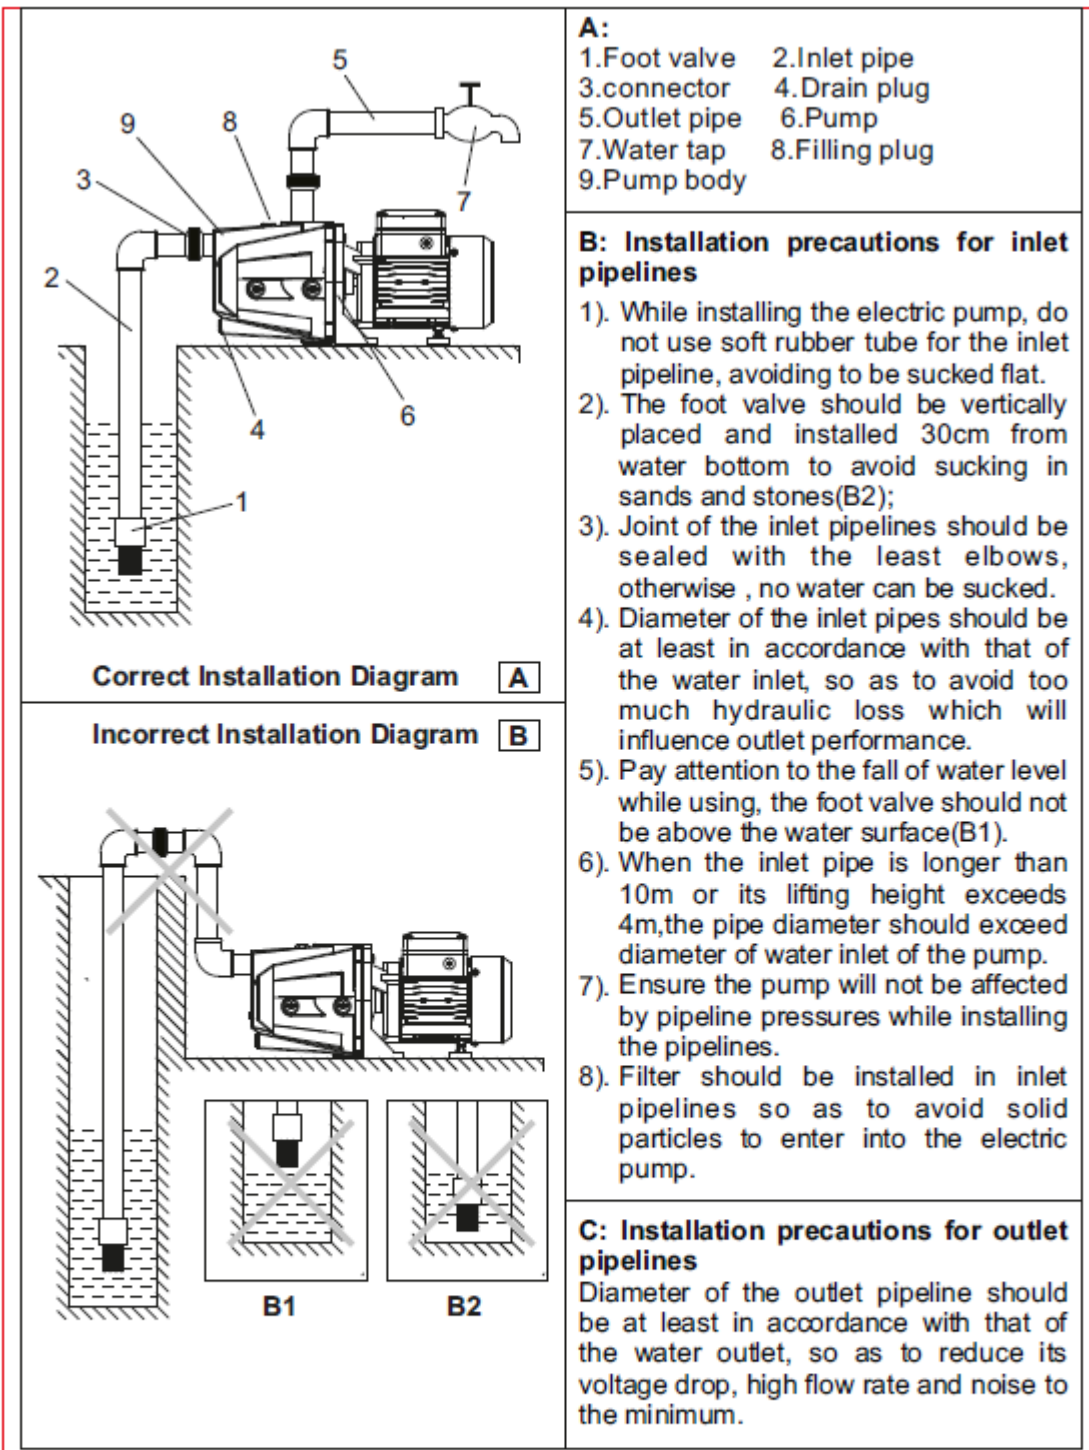
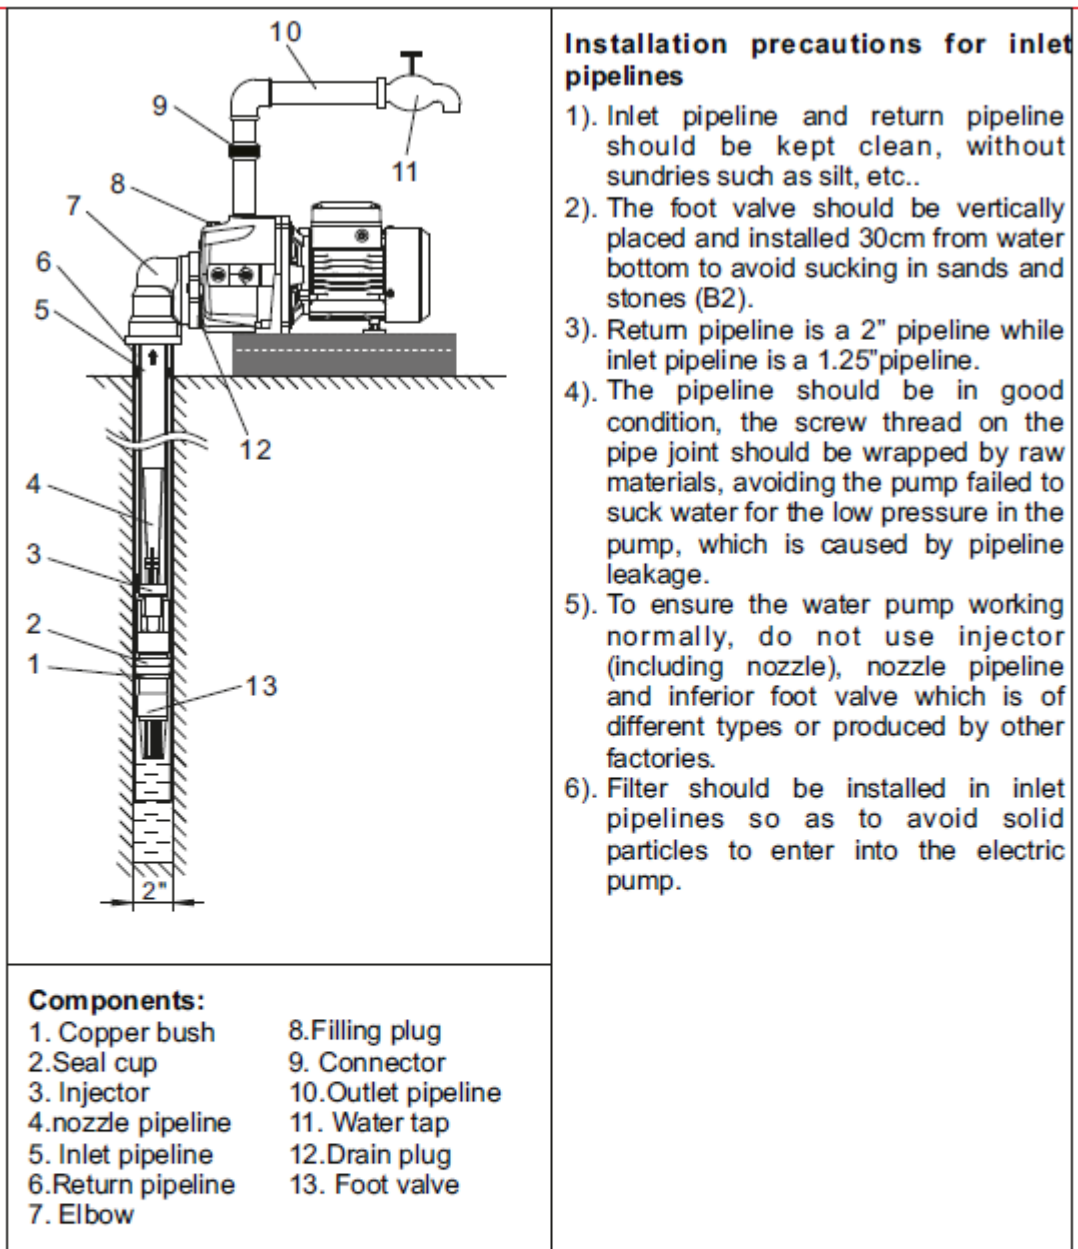
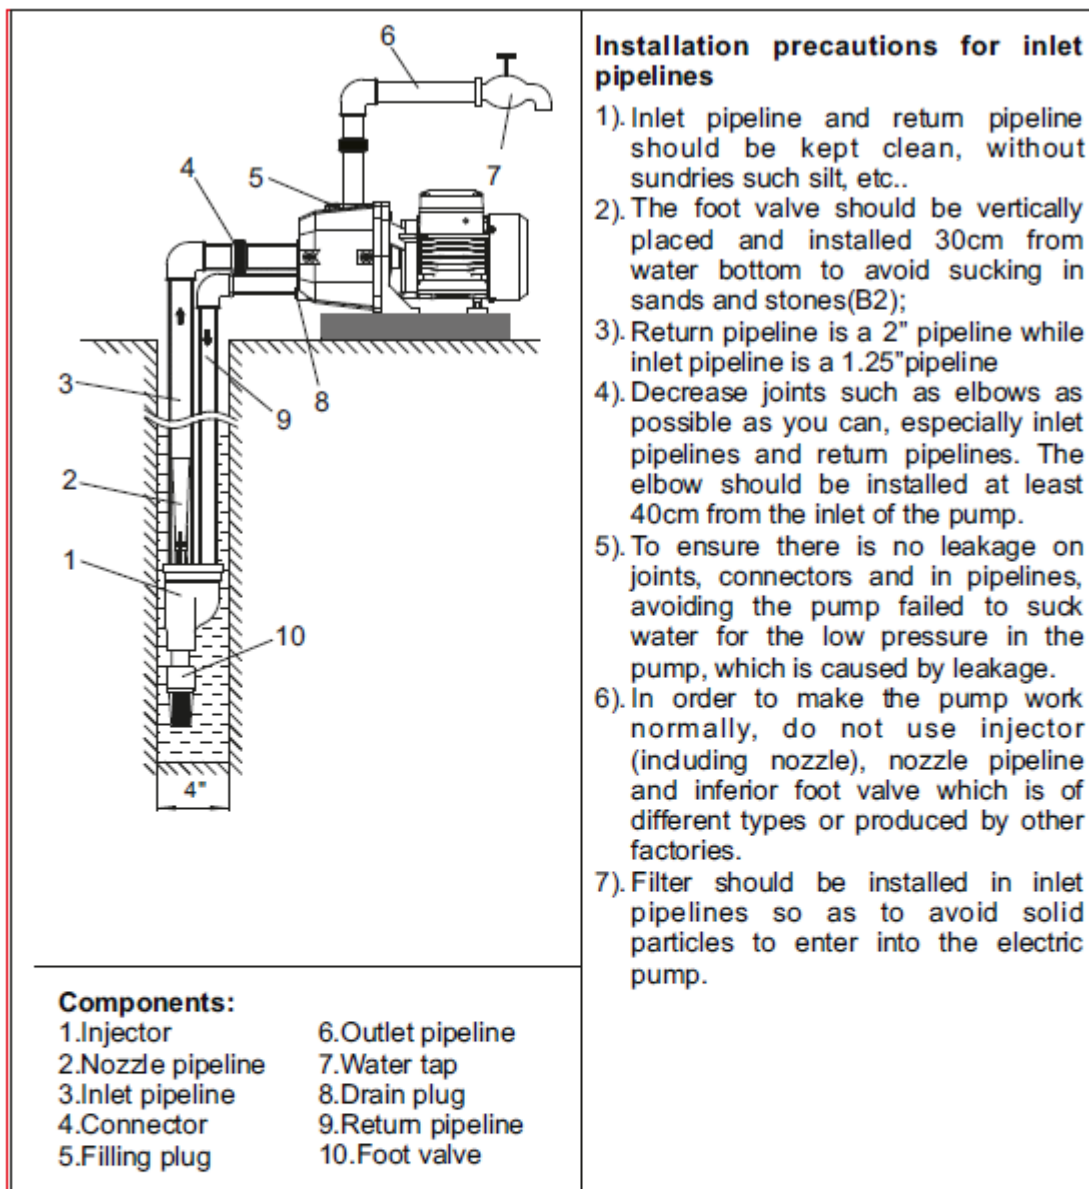

Figure 1 EJ(JW)m xx Pipeline Installation Diagram
Figure2 EDPm x x/1 Pipeline Installation Diagram
Figure 3 EDPm x x Pipeline Installation Diagram
- 4). In case the pump is halted for a long time, start it up again according to figure1, figure2, figure3,after filling the pump chamber with water like figure 9.